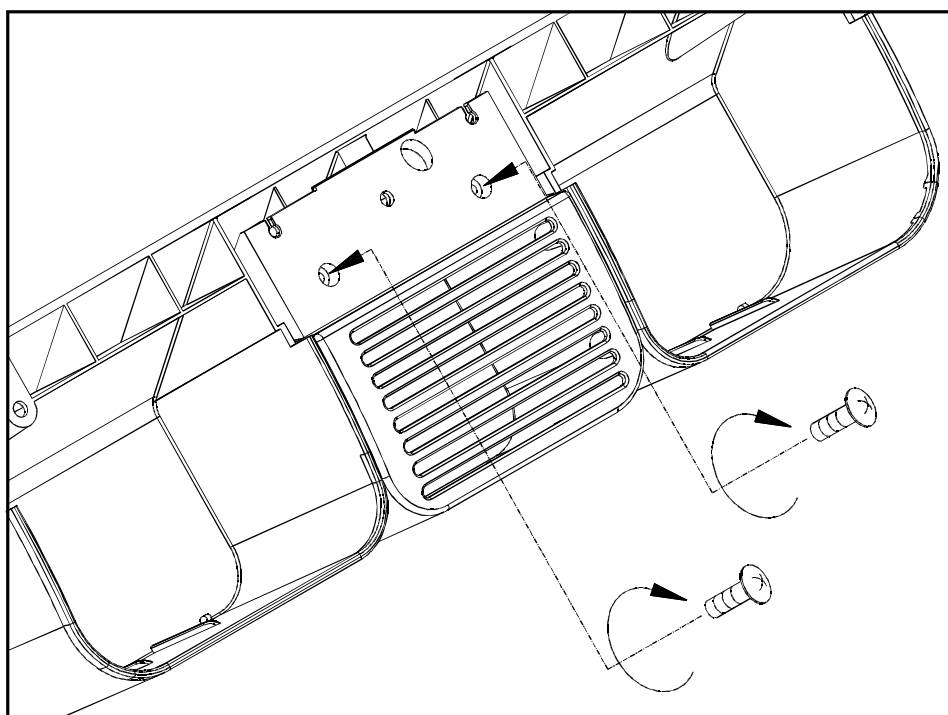

Fig.10
- (2) Put th fan bracket to accessory tray and tighten. (see Fig.10)